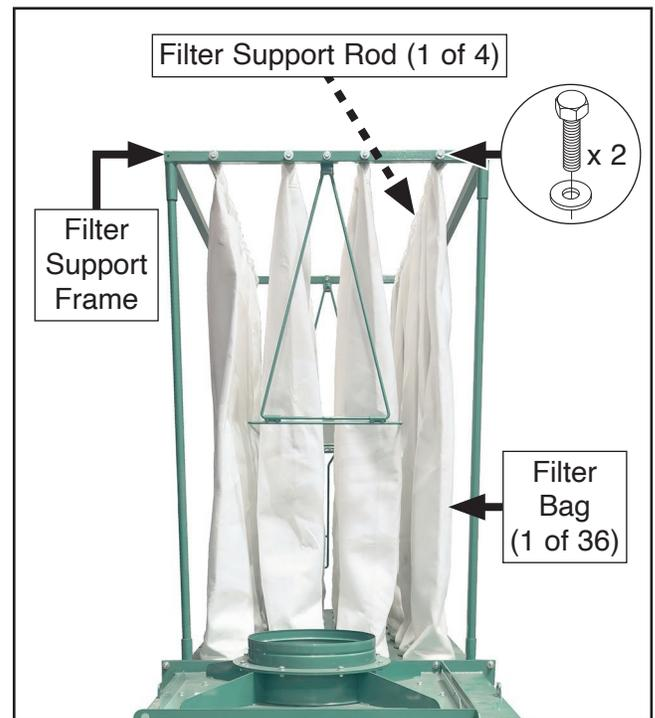

Figure 104. Location of filter support rod components.
3. Remove hex bolts securing filter support rod to filter support frame (see **Figure 104**), then slide filter bags off support rod.